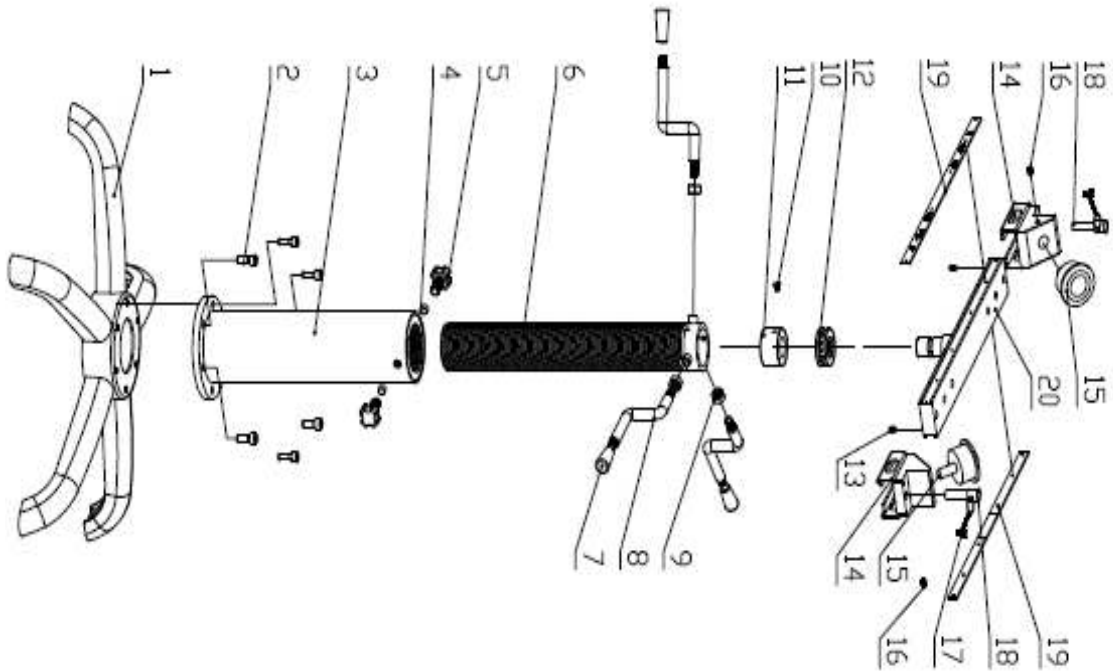

Fig.20
4. Bracket parts form (Fig.20)